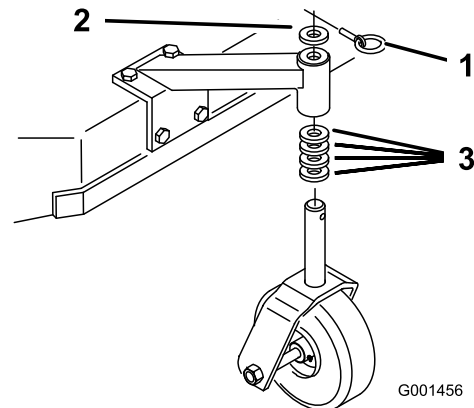

Figure 14
1. Using the Height-of-Cut Chart, adjust the caster spacers to match with the axle hole selected (Figure 14).
2. Remove the latch pin, slide the caster from the support, and change the spacers (Figure 14).
3. Install the caster in the support and insert the v pin (Figure 14).